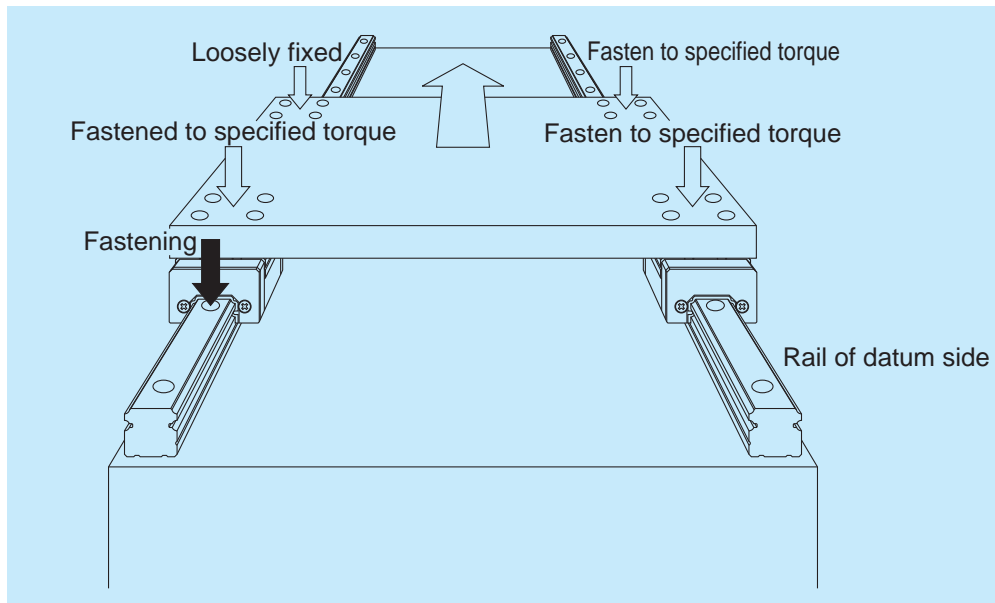

Fig. 9.18 Easy installation
- ④ Finally, tighten all bolts with standard torque.
- ① Arrange the slides so that locations match to their mounting section of the table. Carefully place the table on the slides. Temporarily tighten bolts to secure slides.
- ② Since the table does not have a shoulder, immediately tighten the bolts further to secure slides.
- ③ Move the table by hand to confirm that there is no abnormality. Finally, tighten all bolts with standard torque.
- ① Carefully place the reference side rail on the machine base. Then tighten the bolts for installation with specified torque.
- ② Temporarily tighten the bolts on the adjusting side rail.
- ③ Tighten the slides on the reference side rail and one slide on the adjustment side rail with specified torque. Leave the rest of the slide on the adjusting side rail temporarily tightened (Fig. 9.18).
- ④ While moving the table with each pitch of the bolt for rail: With specified torque, tighten the rail mounting bolt which is located immediately adjacent to the slide on the adjusting side rail that had been finally tightened.